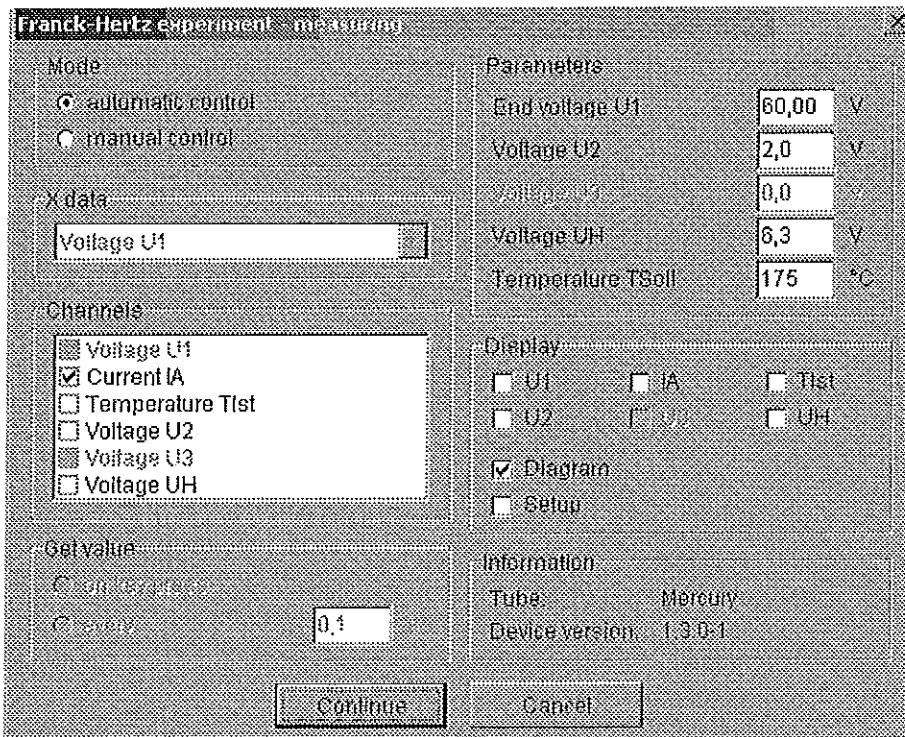

Fig. 8 Measurement parameters of the Franck-Hertz programme for the Hg-tube
B) Start the Measure software and call the Franck-Hertz measurement programme. This automatically recognizes if the Hg tube or the Ne-tube is connected. The parameters required are predefined (see Fig. 8). The values given in Fig. 8 are typical values with which it should be possible to successfully record a measurement curve. **If the collection current is too high then the measurement will be interrupted automatically by control unit after 7 sec. to protect the tube from being damaged. To avoid the discharges adjust the parameters  $U_2$ ,  $U_3$  and  $U_H$  as follows: decrease the heating voltage  $U_H$  and decrease the voltage  $U_3$ .**